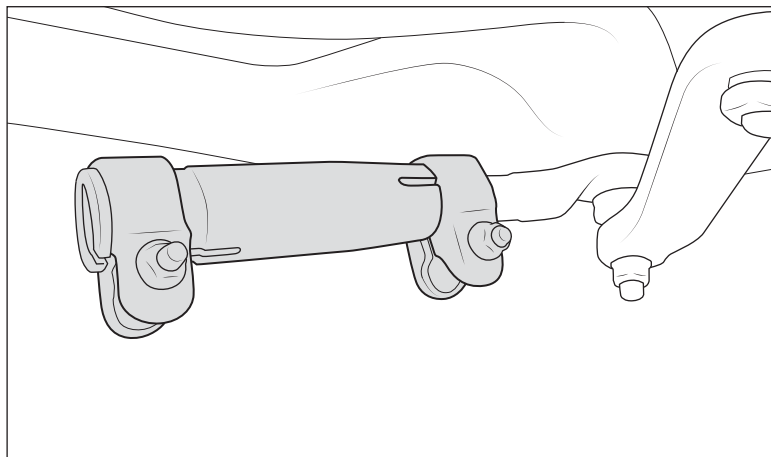

Figure 33
- a. Thread the new adjuster 6 turns (approx, 3/8") onto the pitman arm tie rod end before starting threads on draglink (fig. 33)